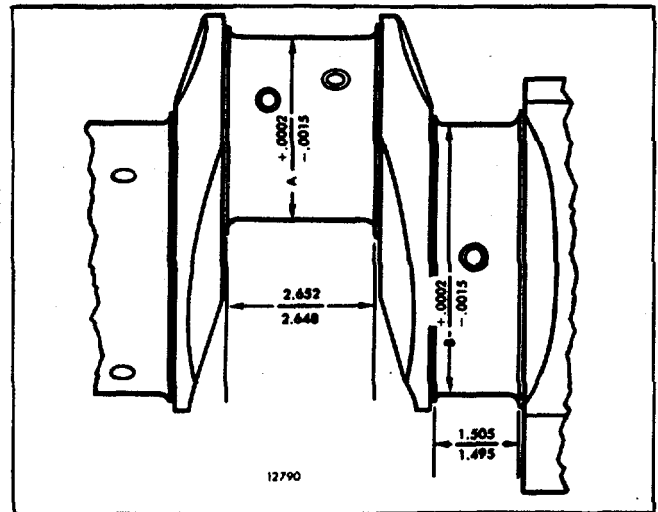

FIG. 6 - Dimensions of Crankshaft Journals
Measure all of the main and connecting rod bearing journals (Fig. 6). Measure the journals at several places on the circumference so that taper, out-of-round and bearing clearances can be determined. If the crankshaft is worn so that the maximum connecting rod or main bearing journal-to-bearing shell clearance (with new shells) exceeds .0045" (connecting rod journal) or .0055" (main bearing journals), the crankshaft must be reground. Measurements of the crankshaft should be accurate to the nearest .0002". Also, if the main bearing journal taper of a used crankshaft exceeds .0006" or the out-of-round is greater than .0005", the crankshaft must be reground.
1. Compare the crankshaft journal measurements taken during inspection with the dimensions in Table 2 and Fig. 6 and determine the size to which the journals are to be reground.